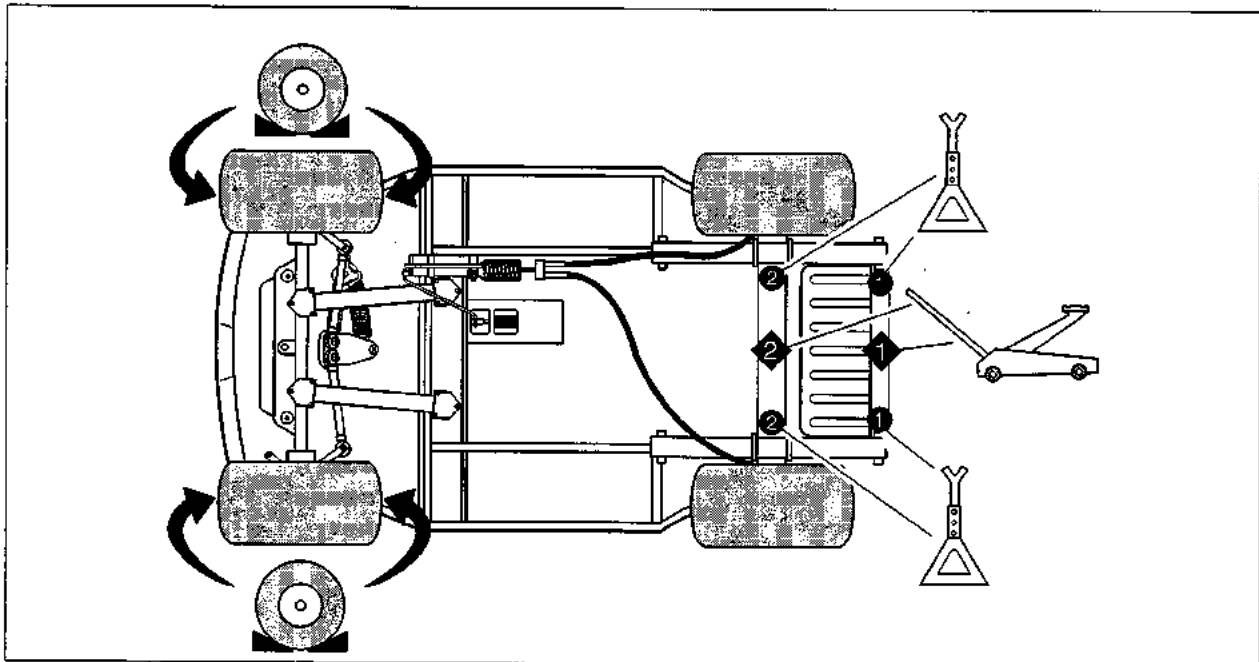

Fig. 1
1. Place chocks in front and behind each front wheel. Center the jack under the rear bumper. (See Fig. 1)
2. Raise the vehicle and place a safety stand under the outer ends of the rear bumper. (See Fig. 1)
5. Place the jack near the center section of the rear axle and raise just enough to place a second set of safety stands at each end of the axle tubes as close to the wheel as possible. (See Fig. 1)